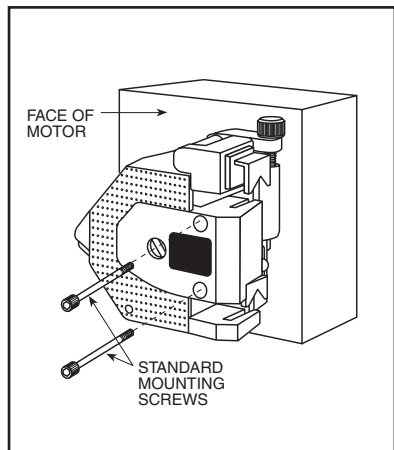

Figure 3-4. Securing the Pump to the Motor
4. Refer to Figure 3-4. With the pump and motor aligned, insert the mounting screws through the mounting holes in the pump, until they make contact with the threaded mounting holes in the face of the motor.